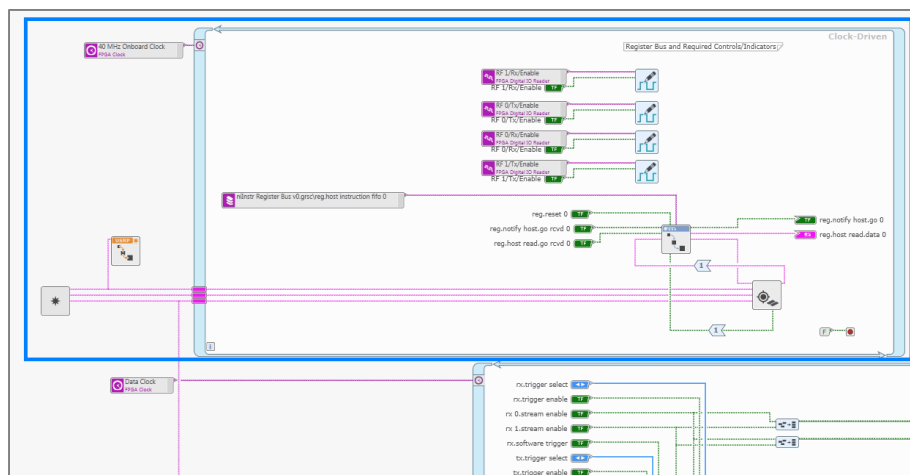

Figure 80: Clock-Driven Loop to Copy From
- a. As shown in Figure 80, select and copy the following from the Diagram: “Create Resources.gvi”, “Process.gvi”, the Clock Constant, and the Clock-Driven Loop.